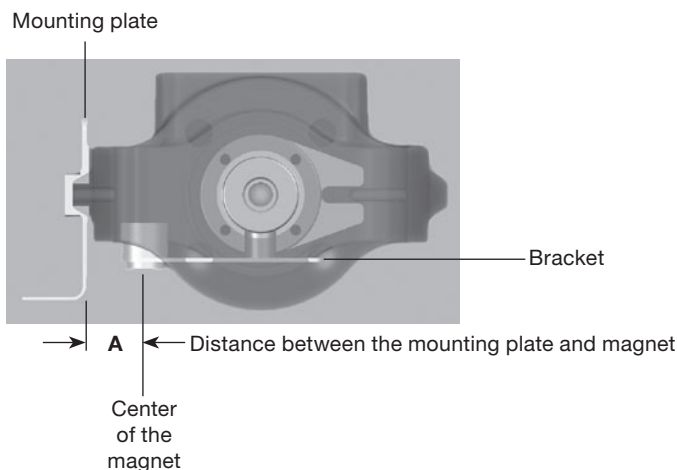

Fig. 8
5.2.3 If you're not using a Spirax Sarco actuator, slide the bracket till the distance 'A' between the center of the magnet and the inner side of the mounting plate is 25 mm (Figure 8).